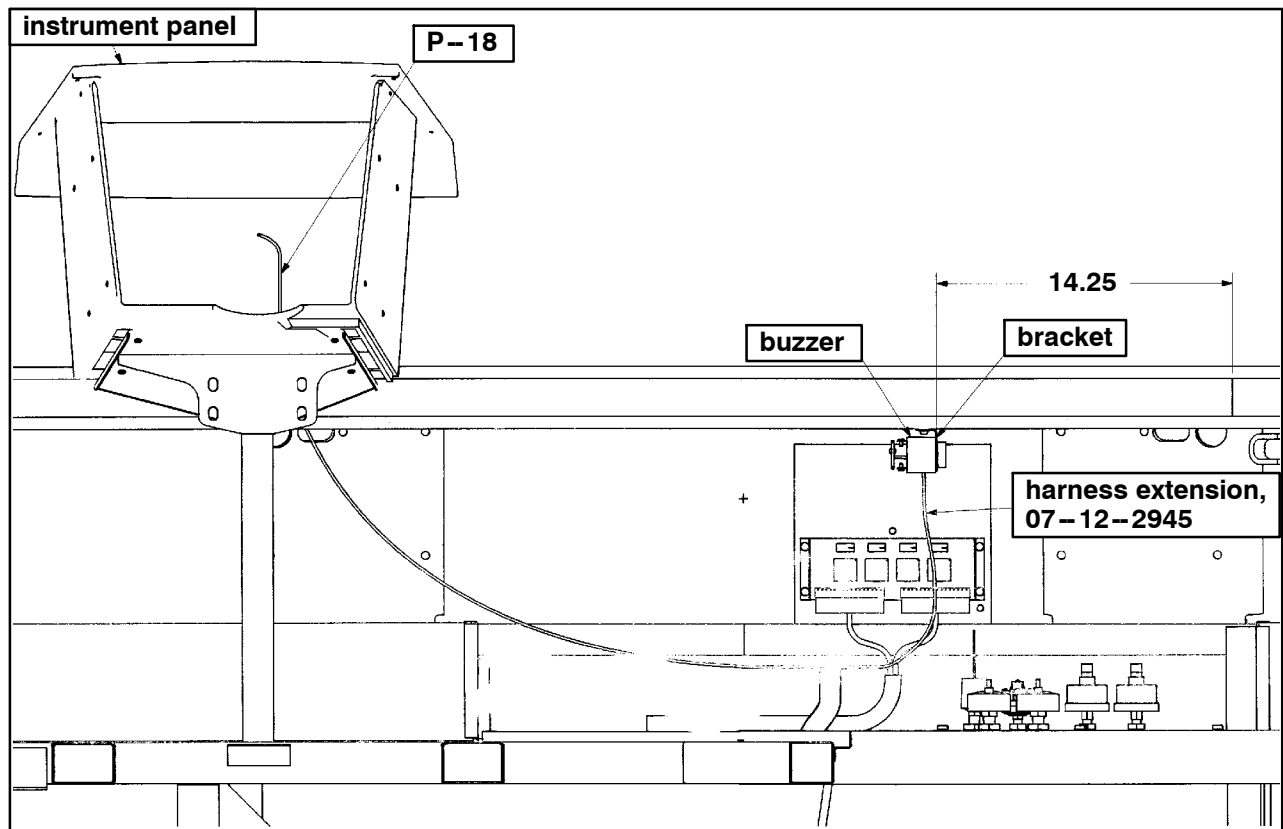

Figure 35.
59. Using a 0.149 dia. drill bit and the holes on the bracket, p/n 07-08-2796, as a template, drill two (2) holes at dimension shown in Figure 35. Using screws, p/n 19-1-758, install the bracket, p/n 07-08-2796.
63. Locate wire 0203E on P-18 (3) in the instrument panel connectors (refer to Figure 35). Using heat shrink, p/n 19-11-1465, and solder splice, p/n 19-11-1466, splice wire 0203E to wire 0203F on harness, p/n 07-12-2945, three (3) inches before the connector P-18. Connect harness, p/n 07-12-2945, to beeper. Using tyrap, p/n 19-11-569, secure harness to existing harness bundle.